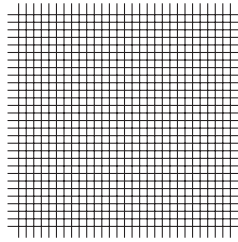

Fig. 2.1
- 2** A fine wire mesh has individual wires that are spaced very close together. See Fig. 2.1.